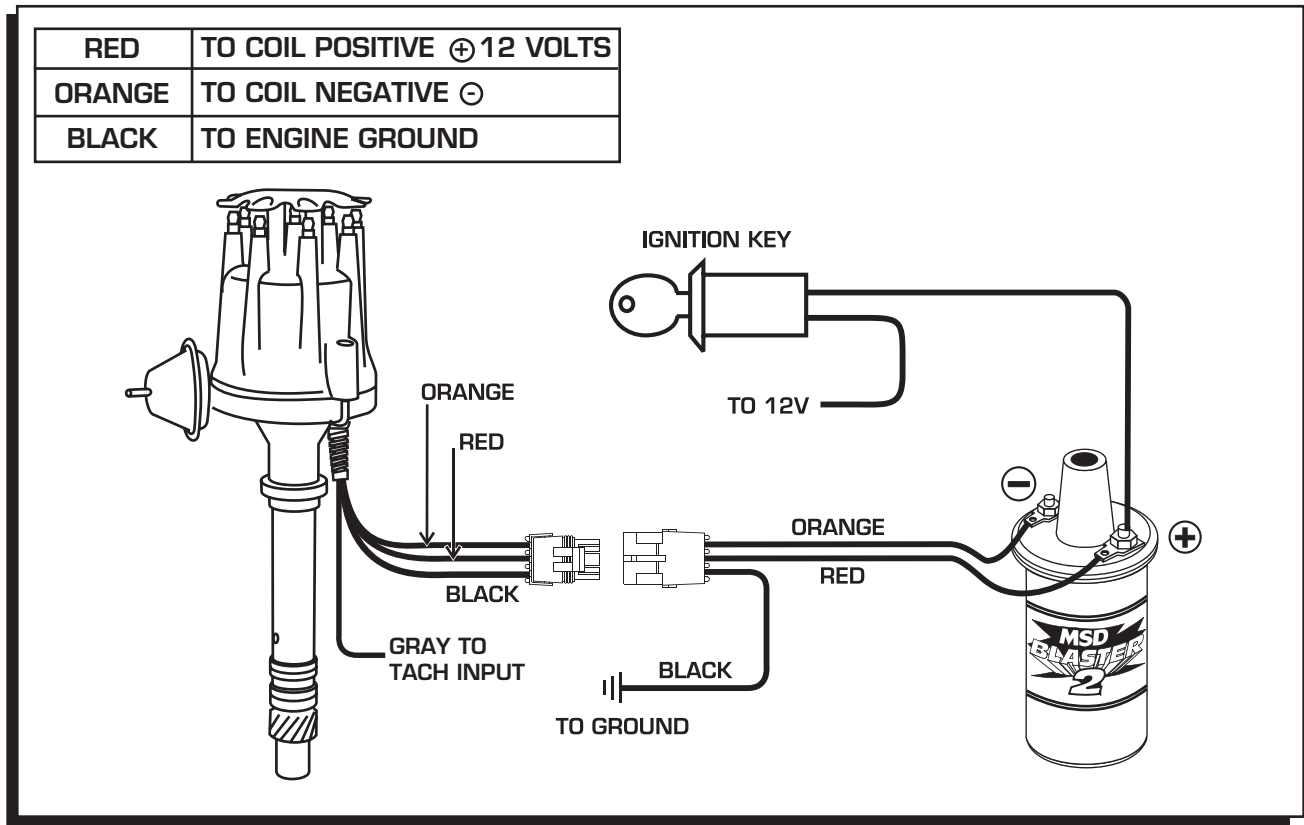

Figure 11 Wiring the Ready-to-Run Ford Distributor.
12. Connect the supplied wiring harness to the distributor. Route the wires to their connections as shown in Figure 11.